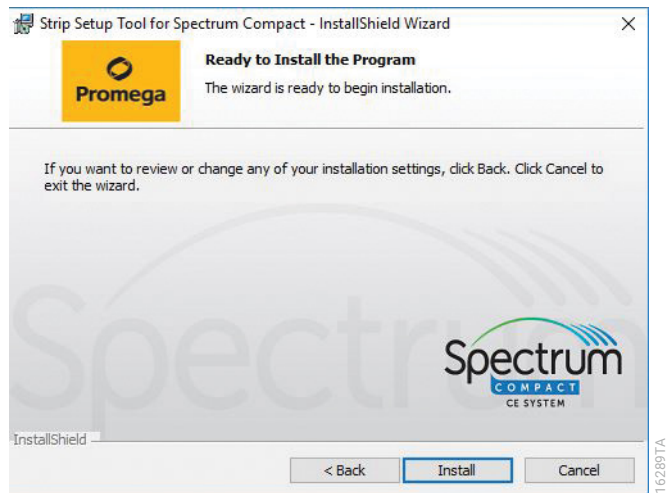

Figure 188. Ready to Install the Program window.
4. The Ready to Install the Program window appears (Figure 188). Select **Install**.